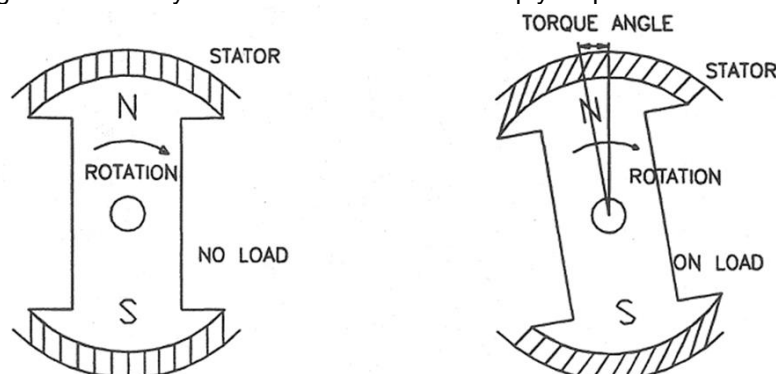

Figure 10 - Stator and rotor fields on no load and full load.
- 38. If load is applied to the motor, the rotor attempts to slow down but it cannot because it is locked in synchronism with the rotating magnetic field of the stator, so it lags a few degrees behind it - as shown in Figure 10. If the load is increased to a critical point the attraction between the stator field and the rotor field reaches a value where it can no longer remain in synchronism and the rotor simply stops.